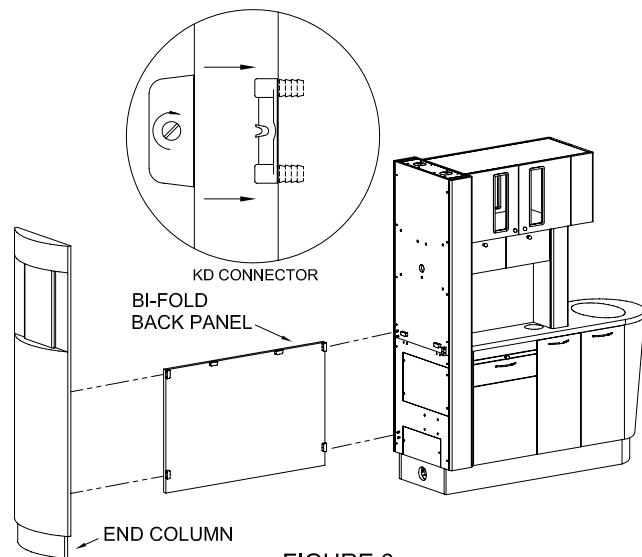

FIGURE 6
Place bi-fold back panel up against the utility column making sure to connect the (2) KD connectors. Engage the KD connectors by turning the screw clockwise about 1/2 turn. See Figure 6. Have an assistant hold the unattached end steady so it does not fall over.
Connect the end column to the (2) KD connectors on the back panel. Engage the KD connectors by turning the screw clockwise about 1/2 turn. See Figure 6.
Mark and drill (3) 5mm ( $\frac{3}{16}$ ") holes at locations shown. See Figure 6.